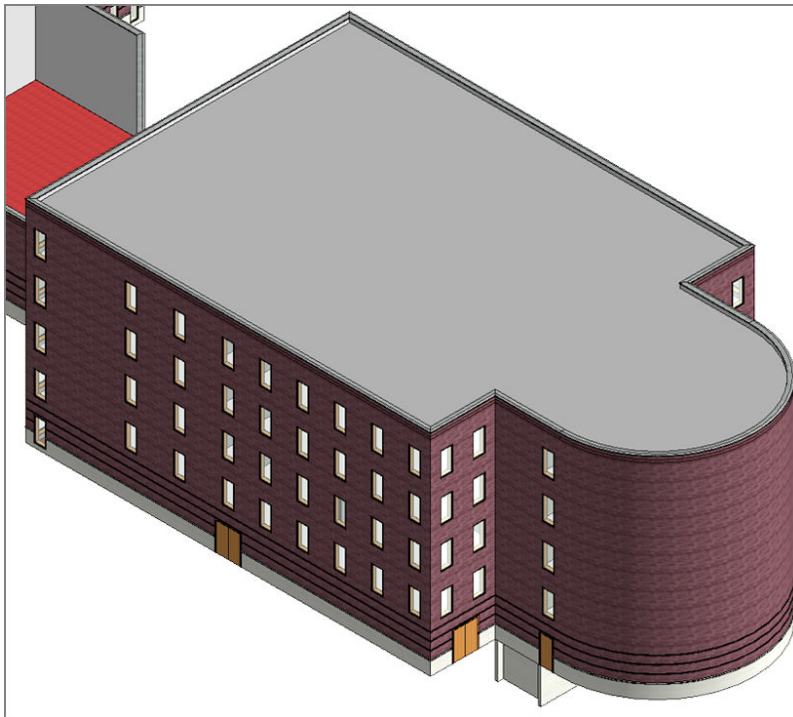

FIGURE 7.4: The roof has been added. You still have a lot of work to do, though.
15. Go to a 3D view, as shown in Figure 7.4.